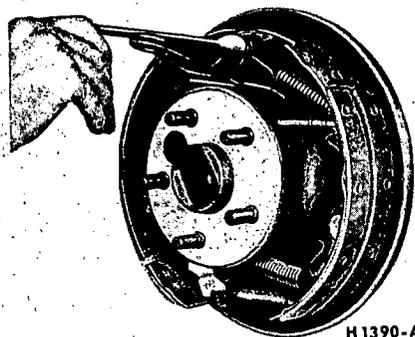

FIG. 14—Retracting Spring Removal
1. With the wheel and drum removed install a clamp over the ends of the brake cylinder as shown in Fig. 14.
2. Remove the secondary shoe to anchor spring with the tool shown in Fig. 14. With the same tool remove the primary shoe to anchor spring and unhook the cable eye from the anchor pin.